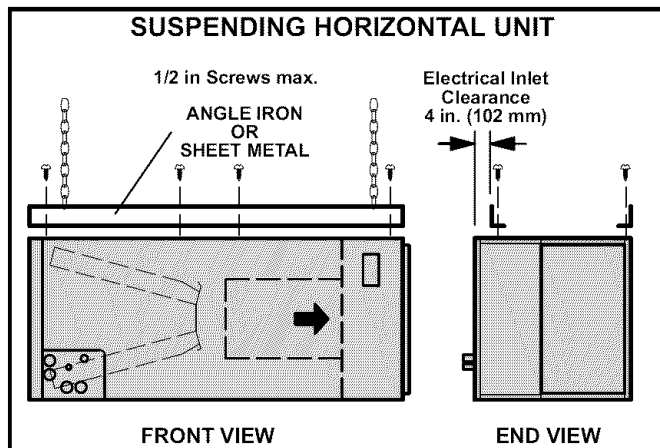

FIGURE 3
3 -If the unit is to be suspended, it must be supported along the entire length of the cabinet. If you use a strap, attach a piece of angle iron or sheet metal to the unit (either above or below) so that the full length of the cabinet is supported. Use securing screws which are no longer than 1/2 inch to avoid damaging the coil or filter. See figure 3. Connect the return and supply air plenums as required using sheet metal screws.
- 14 - If you are going to suspend the unit, the entire length of the cabinet must be supported. If you use a chain or strap, attach a piece of angle iron or sheet metal to the unit (either above or below it), so that the full length of the cabinet is supported. Use securing screws which are no longer than 1/2 inch to avoid damaging the coil or filter. See figure 3. Use sheet metal screws to connect the return and supply air plenums.